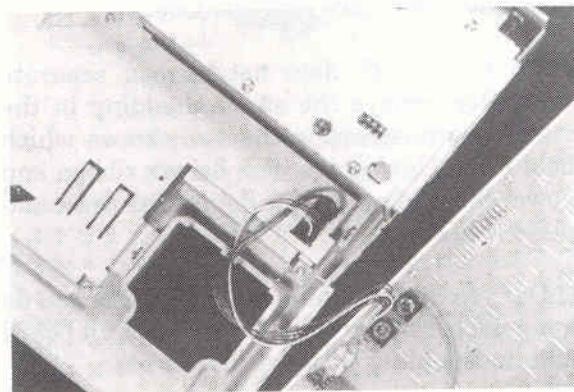

Figure 2 - Keyboard to one side
(7) Lift up the keyboard from the left hand side and you will notice that it is attached to the ST's main circuit board through a hole in the shielding by a connector on the right hand side of the ST. Lay the keyboard to one side as shown in figure 2 and, using the pliers, unplug the connector from the ST. Lift the detached keyboard up and place it to one side.